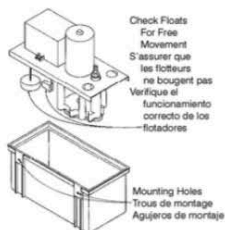

Fig. 1
3. Mount the pump. There are two vertical mounting surfaces (Fig. 1) on one side of the tank to mount on side of air conditioning unit, or nearby wall. Mounting holes can be drilled in this surface, but should not exceed one inch from the top of the tank to prevent possible spillage of water.